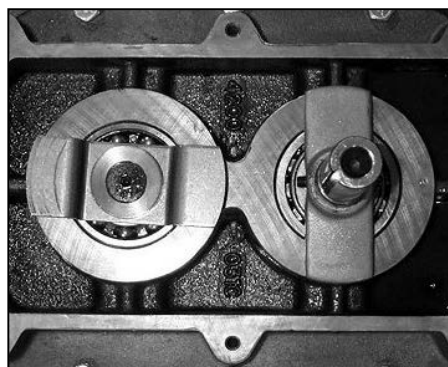

Figure 12 - Set screws for slingers
8. Turn blower around and remove eight (8) cap screws securing the drive end cover [10].
10. Loosen the set screws on the oil slingers [Items 45 & 46] and remove the oil slingers from the rotor shafts. (Refer to Figure 12)